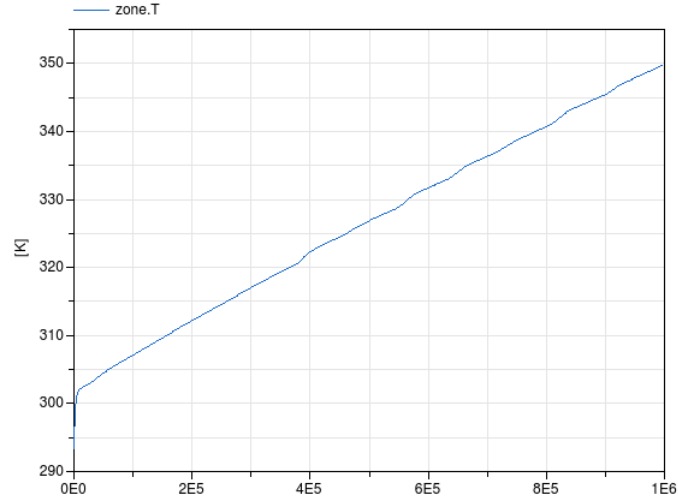

Figure 6: Air temperature in K as function of time in seconds.
**Reference result** The result of the air temperature is plotted in Figure 6. The temperature rises very steeply since the wall is relatively well insulated ( $k = 0.04 \text{ W}/(m \cdot K)$ ) and the heater is not disabled when it becomes too warm.